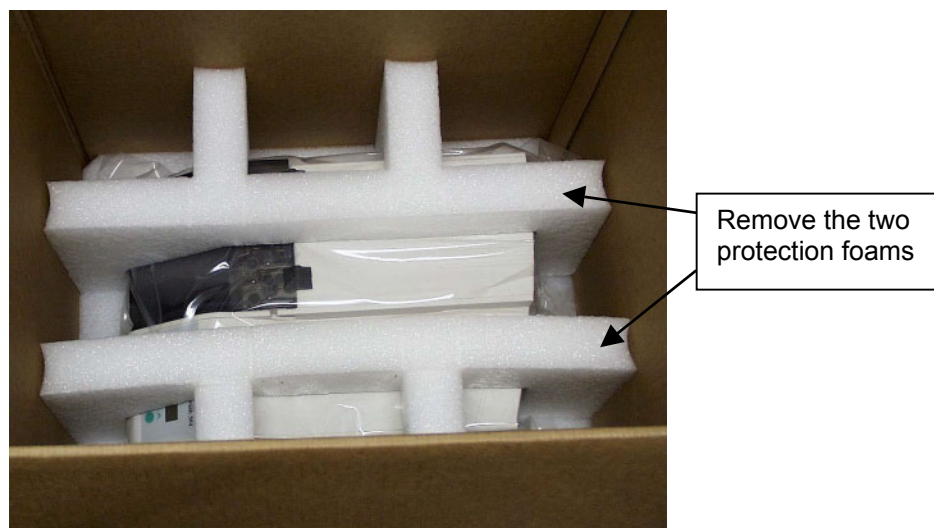

Fig. 5.2 Wellwash 384 washer in the second layer of the transport package
2. Remove both upper foams (*Fig. 5.2*).